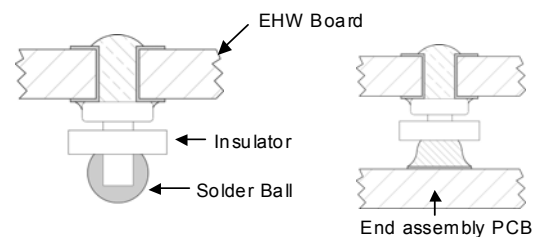

Figure 24. Column Pin Connector Before and After Reflow Soldering .
The surface mountable modules in the EHW family use our newest SMT technology called “Column Pin” (CP) connectors. Figure 24 shows the new CP connector before and after reflow soldering onto the end-board assembly.